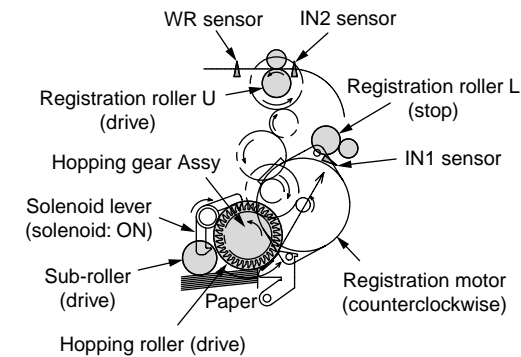

Figure 2-1
1. As illustrated in Figure 2-1, when the solenoid is ON, the registration motor rotates (counterclockwise), transporting the paper until the IN1 sensor comes ON. (When the solenoid is ON, the paper feed roller is driven.)